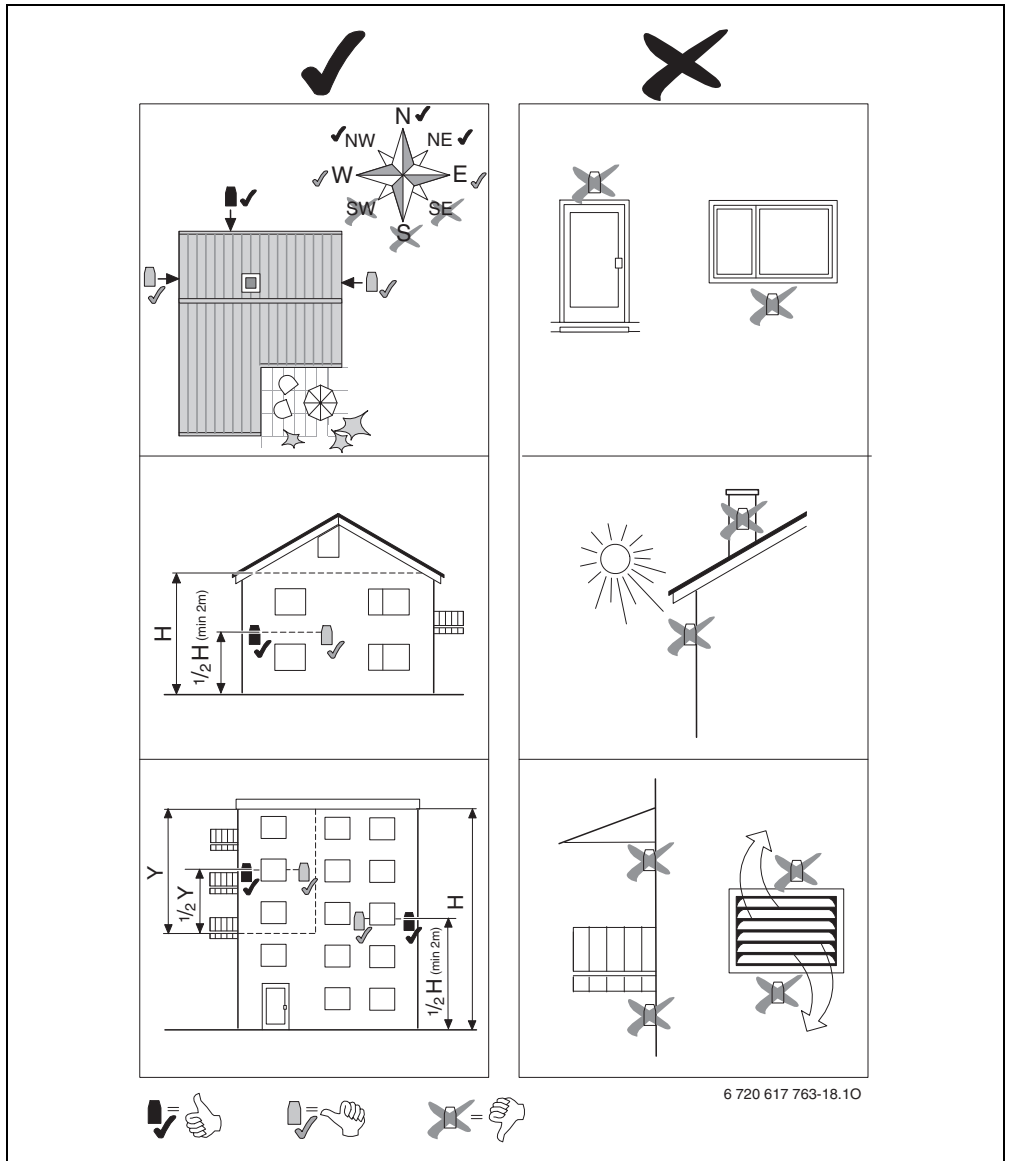

Fig. 12
- ▶ Select installation location (→ Fig. 12).